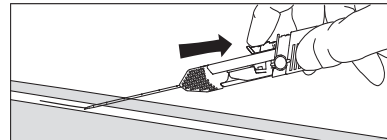

Figure 6
9. Stabilize position of needle/handle and carefully advance guidewire into vessel by pulling guidewire slider back into handle (refer to Figure 6).